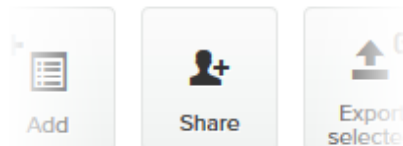

Figure 73. Plug-ins web page (Share button)
4. Click the **Share** button in the upper left-hand corner of the **Plug-ins** web page (Figure 73 (page 153)).